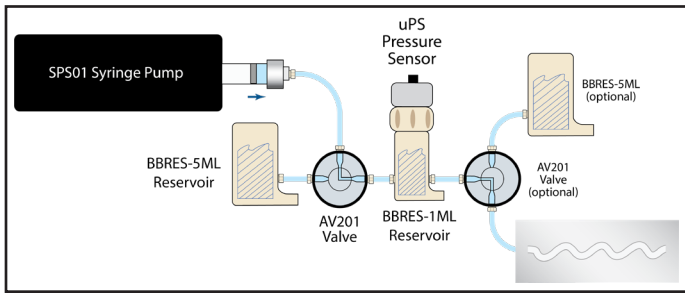

Fig. 2
- 1) Mount components to the breadboard, with a setup similar to that in **Fig. 2**.